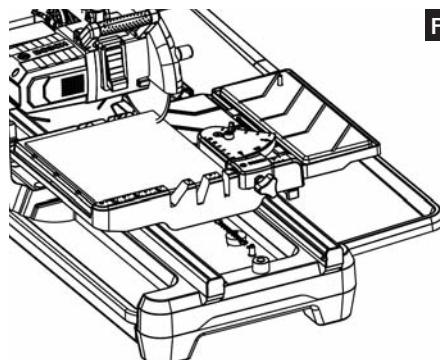

FIG. 36
5. Plunge the blade into the tile. Do not force the saw or move the blade too quickly into the tile (Fig. 36).